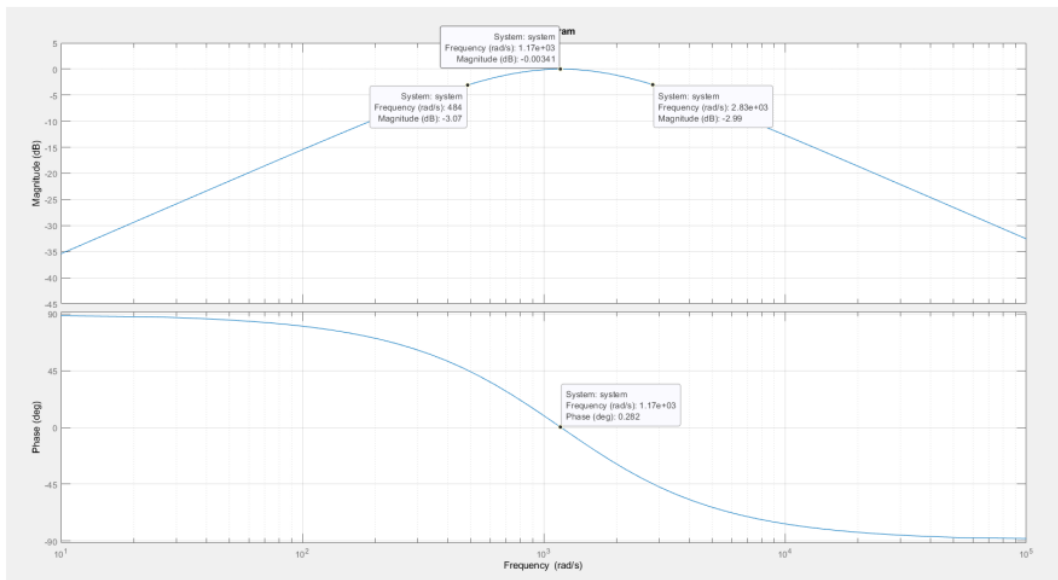

Figure 45 Frequency Performance Graph for Task 8 Circuit 3
9.1: Select a suitable value for C1 for the electronic system shown in figures 45 and determine the expected frequency performance.